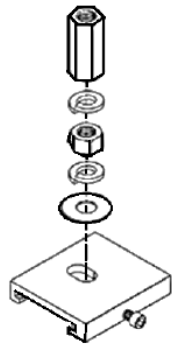

Figure 2: Flat Washer, Lock Washer, Hex Nut
2. Insert the 1 1/2" x 1/2" bolt through the slot in the ceiling bracket, with the bolt head in the underside of the bracket. (See Figure 2)
(See Figure 2)